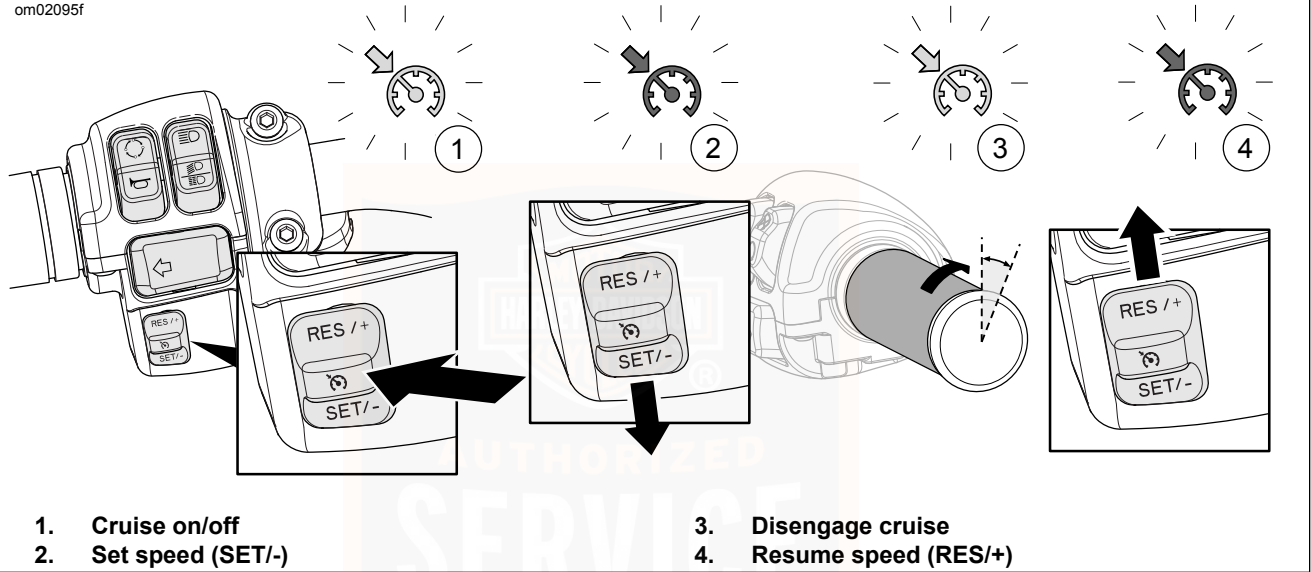

Figure 42. Cruise Control
See Figure 42. Press the CRUISE switch to turn on cruise (1). When on, the cruise icon in the speedometer face glows amber.
See Figure 42. When the motorcycle reaches your intended speed, press the SET/- switch down to set the cruise speed (2). The amber cruise icon changes to green.
See Figure 42. To drop out of cruise speed, roll the throttle closed through the roll-off switch (3).
See Figure 42. If cruise has been disengaged yet the cruise indicator is amber, pressing the RES/+ switch up resumes cruise (4). The icon glows green. The motorcycle automatically resumes cruise at the set speed.